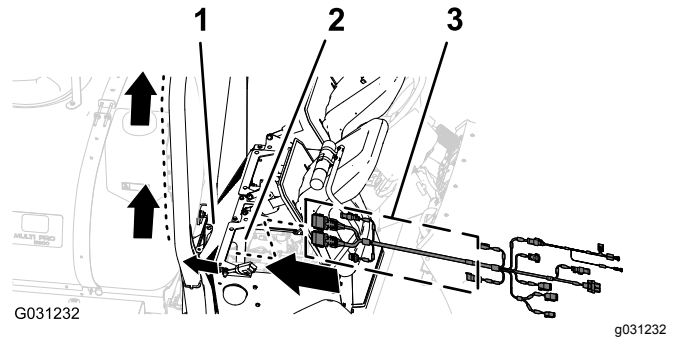

Figure 133
1. Route the 390 cm (153-1/2 inch) branch of the data-harness into the right side of the engine compartment (adjacent to the air filter for the engine) and rearward under the bottom right area of the rear engine shroud (Figure 133).